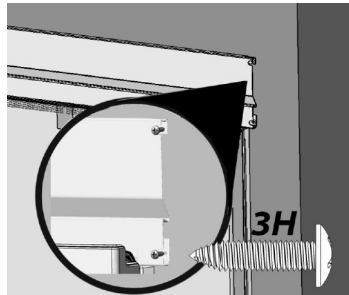

Fig. 22
- b. Drill  $\frac{1}{8}$ " pilot holes and fasten two 3H screws on the right side of the Top Trim (one screw per side for Collared top trim) with a Phillips screwdriver to the cabinets (Fig. 22).